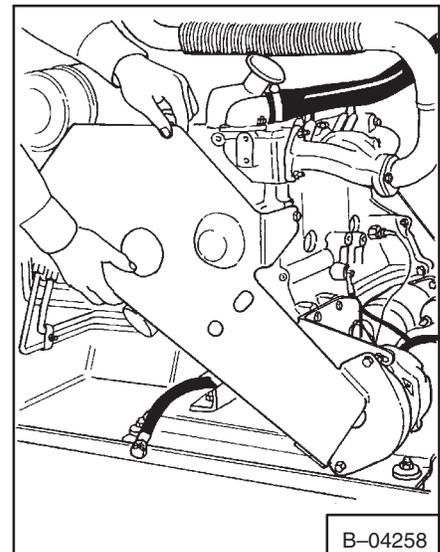

Fig. 1-31 Removing Belt Shield (642)
2. Remove the belt shield (Fig. 1-31).